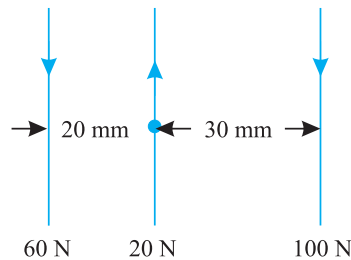

Fig. 4.9.
**Example 4.6.** Find graphically the resultant of the forces shown in Fig. 4.9